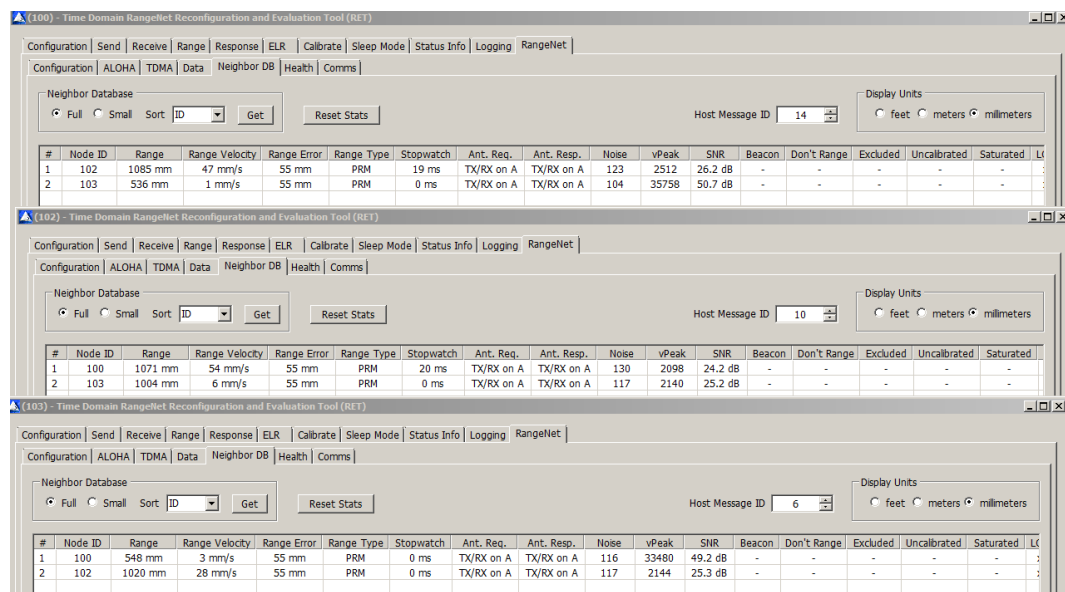

Fig. 16: Example ALOHA Network with three members
- Repeat this process for unit # 103 and you will see that each unit now sees two other units. An example is shown in **Figure 16**.